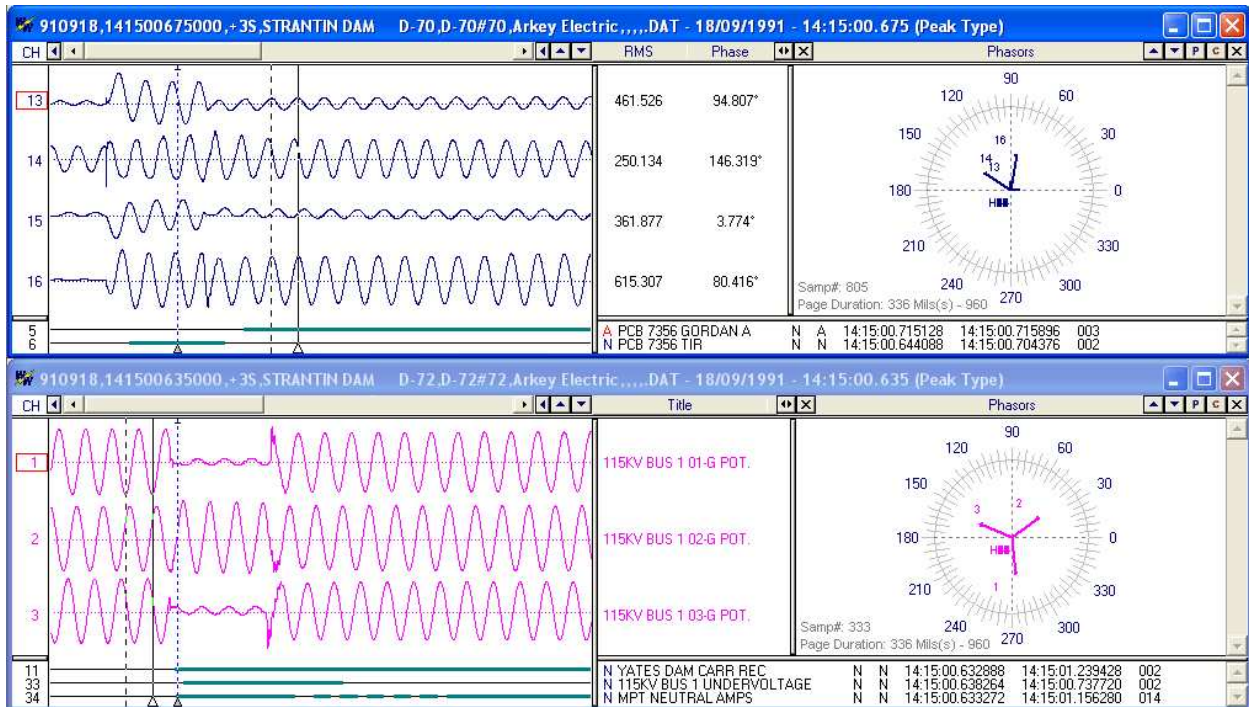

Figure 5.20 Merge Open Files – By Time: Open files and select channels to Merge
- By Time: Merge channel samples if they have a common time segment. The reference time is taken from the file with the latest start date and time. The file with the least number of samples determines the length of the new merged file. Refer to Figure 5.20 and 5.21.